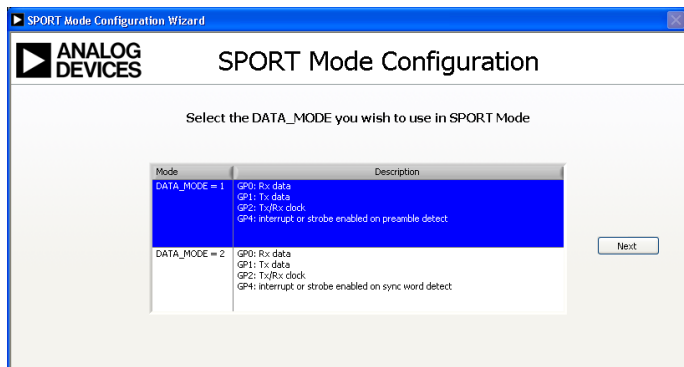

Figure 28
- The first screen allows the user to choose whether the GP4 interrupt should occur on Preamble Detect or on Sync word detect. Click the “Next” button after your selection. (Figure 28)